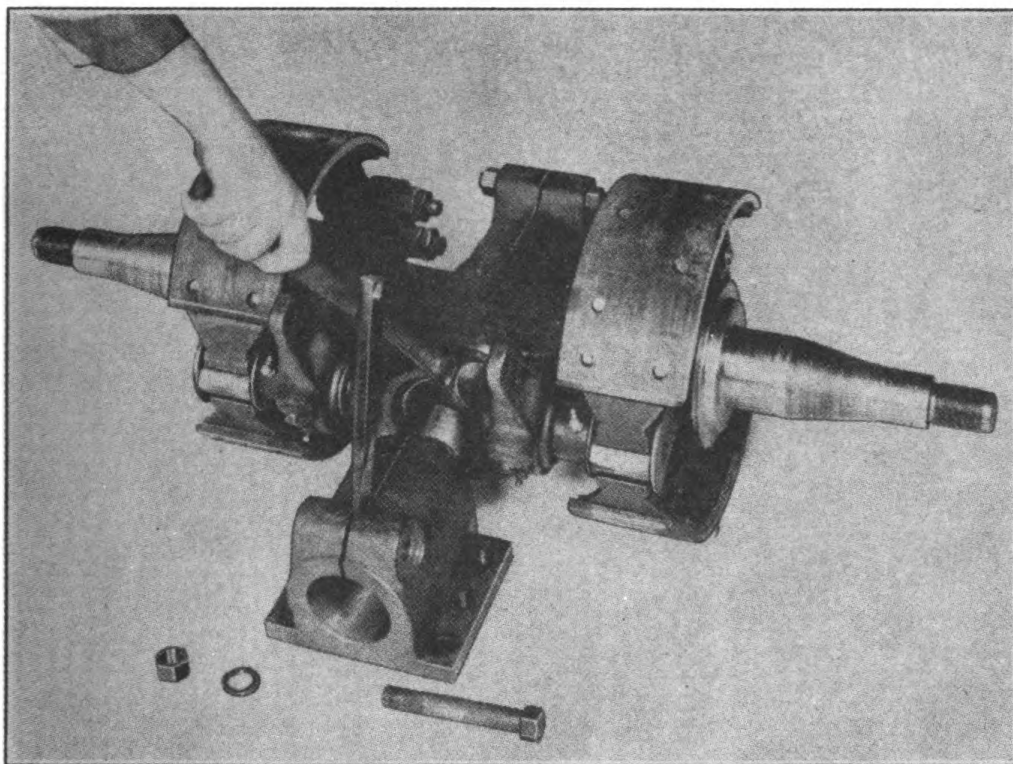

FIGURE 12. REMOVING TRUNNION BRACKET
c. Remove the pinch bolts from both trunnion axle brackets. Drive a chisel into slot to release bind of trunnion axle bracket against trunnion shaft, and slide or tap bracket off (Fig. 12).